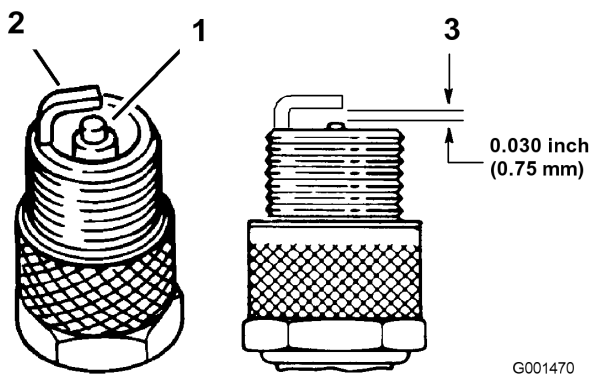

Figure 26
1. Look at the center of the spark plugs (Figure 26). If you see light brown or gray on the insulator, the engine is operating properly. A black coating on the insulator usually means that the air cleaner is dirty.
3. Check the gap between the center and side electrodes (Figure 26). Bend the side electrode (Figure 26) if the gap is not correct.
3. Connect the wires to the spark plugs (Figure 26).